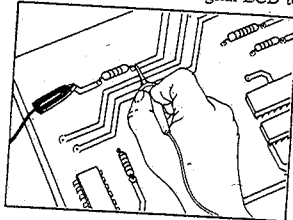

Fig 5
4. Connect test leads to the circuit being measured (Fig 5) When measuring high resistance, be sure not to contact adjacent points even if insulated, because some insulators have a relatively low insulation resistance.